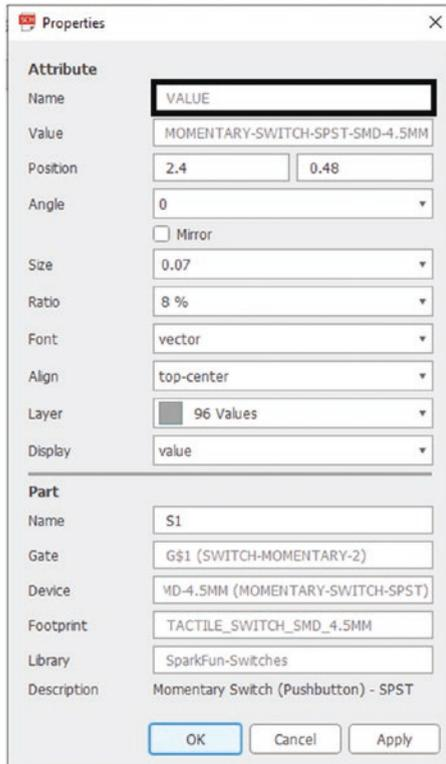

Figure 5-32. When the proper area of the button is selected, the name will be “VALUE”
19. The Properties menu should have the value of “VALUE.” See Figure 5-32.